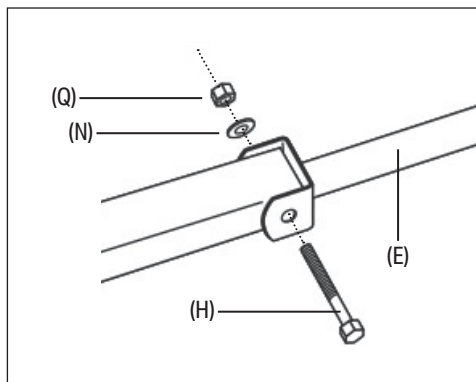

Fig. 6
6. Attach the handle to the cart - Fig. 6:
- a. Place the square bracket of the handle shaft (E) around the forward arm of the front axle assembly.
- b. Pass the M8 x 62mm partial-thread hex bolt (H) through the handle shaft and axle assembly, and secure it in place with an M8 washer (O) and an M8 nylon-insert lock nut (Q).